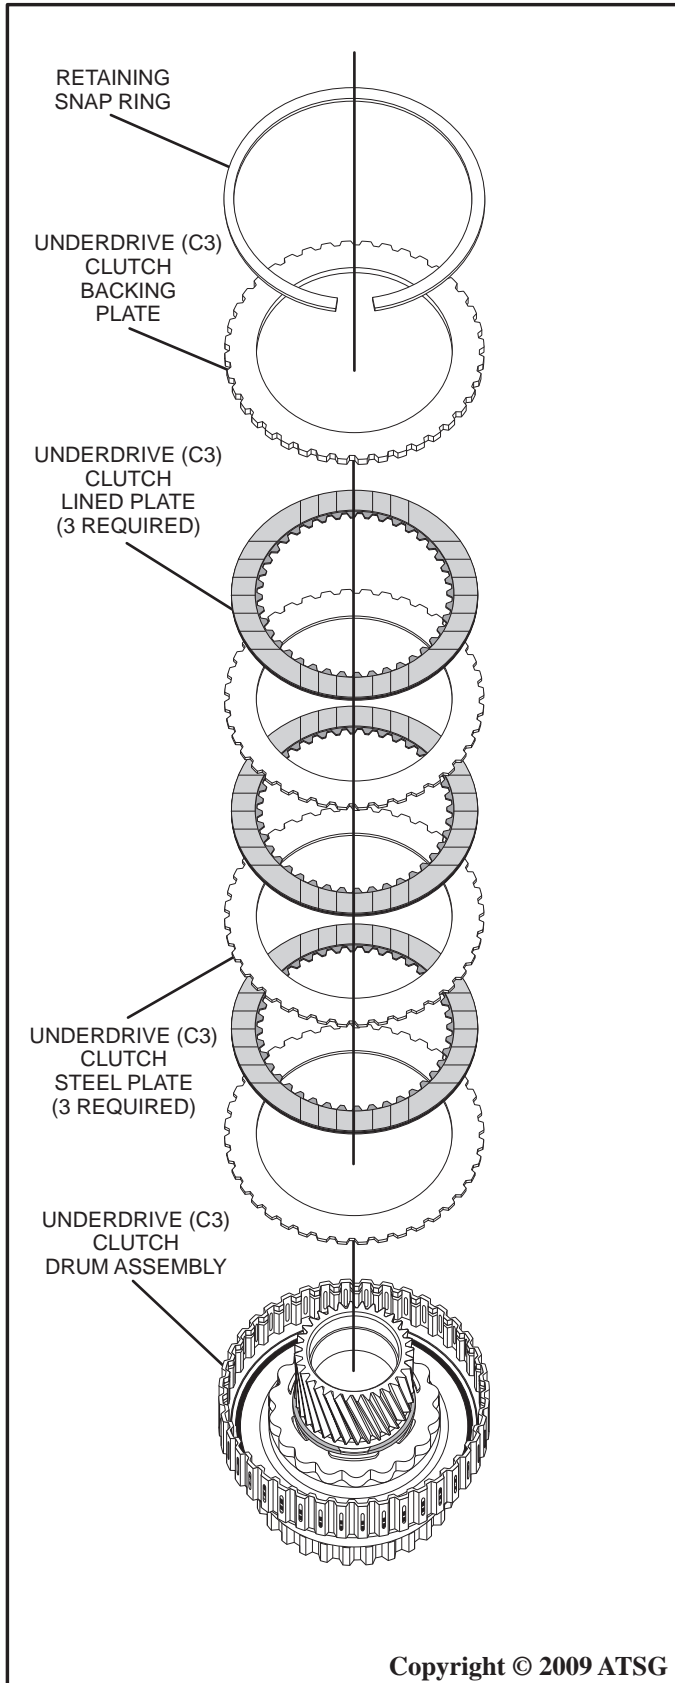

Figure 109
10. Install the underdrive (C3) clutch plates beginning with a steel plate, then alternating frictions and steels until there are three steel and three lined plates installed into the drum housing as shown in Figure 109.
11. Install the underdrive (C3) clutch backing plate into the drum housing as shown in Figure 109.
12. Install the retaining snap ring into the drum housing as shown in Figure 109. Check the underdrive (C3) clutch clearance using a feeler gauge between the backing plate and snap ring as shown in Figure 110.